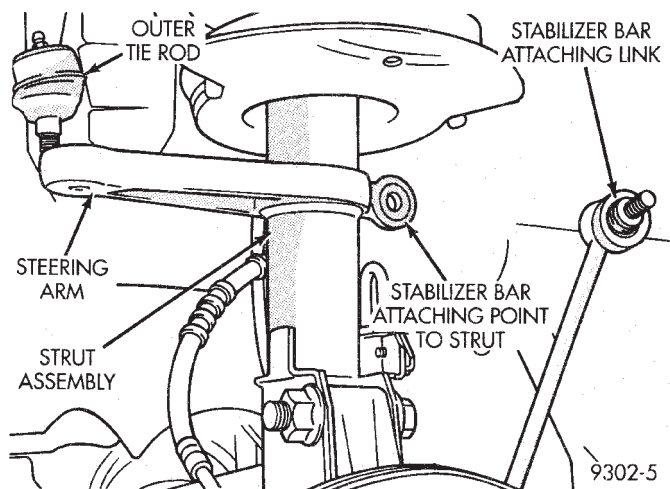
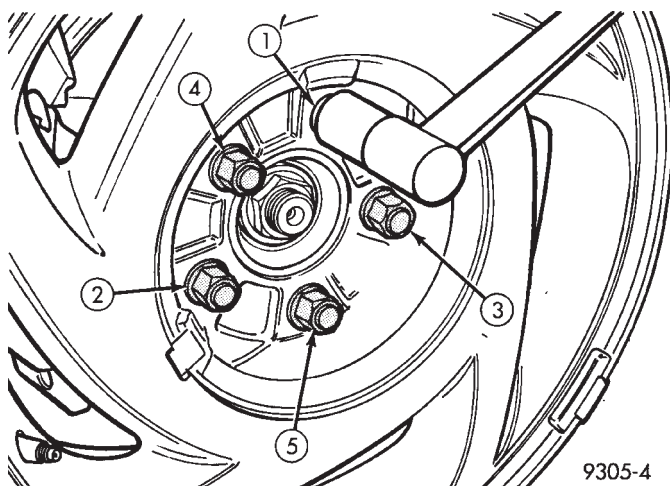

Fig. 8 Tie Rod And Stabilizer Bar Link Removed
Fig. 9 Tightening Wheel Nuts
(6) Install outer tie rod on steering arm of strut assembly (Fig. 8). Install tie rod to steering arm attaching nut on tie rod. Torque the tie rod to steering arm attaching nut to 37 N•m (27 ft. lbs.).
(7) Install stabilizer bar link assembly onto strut assembly (Fig. 8). Torque the stabilizer link assembly to strut assembly attaching nut to 95 N•m (70 ft. lbs.).
(8) Install the wheel and tire assembly.
(9) Tighten the wheel mounting stud nuts in proper sequence (Fig. 9) until all nuts are torqued to half specification. Then repeat the tightening sequence to the full specified torque of 129 N•m (95 ft. lbs.).
(10) Lower vehicle.